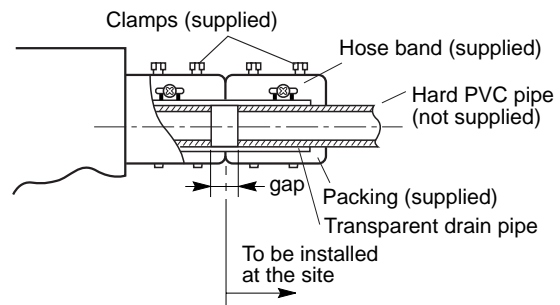

Fig. 3-88
- (1) Prepare a standard hard PVC pipe (O.D. 32 mm) for the drain and use the supplied hose band to prevent water leaks. The PVC pipe must be purchased separately. When doing this, leave a gap between the drain socket of the unit and the PVC pipe to allow the drainage to be checked. The transparent drain pipe allows you to check drainage. (Fig. 3-88)
**Tighten the hose clamps so their locking nuts face upward. (Fig. 3-88)**